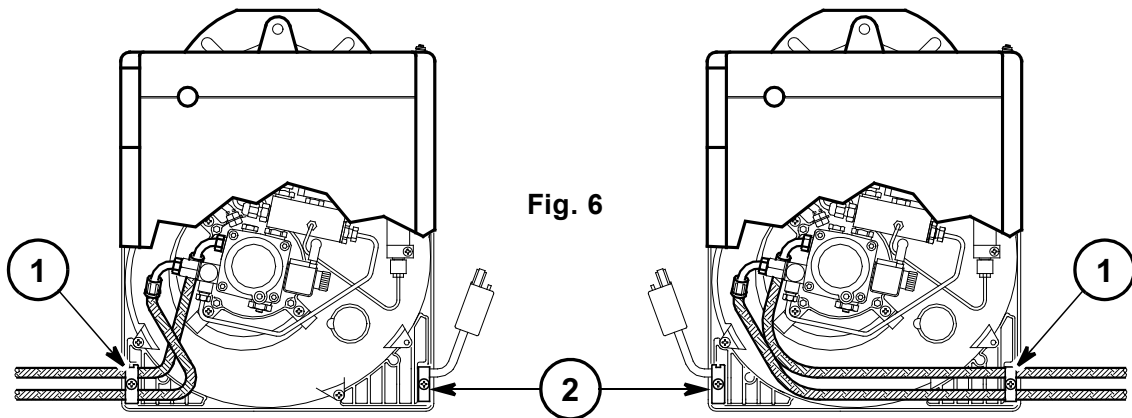

Fig. 6
The burner is designed to allow entry of the oil supply pipes on either side. Depending on the oil supply pipes position (to the right or to the left hand side of the burner) the fixing plate (1) and cable clamp (2) should be reversed, (see Fig. 6).